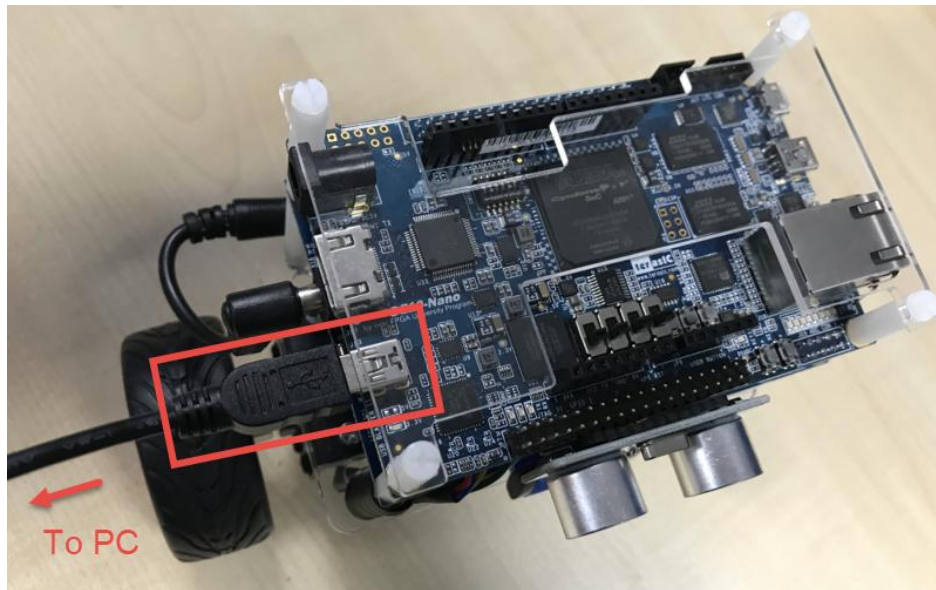

Figure 7-4 Connect the robot to PC via USB Mini Cable
- As shown in **Figure 7-4**, Connect a USB cable to the USB Blaster II connector on the robot and the PC.